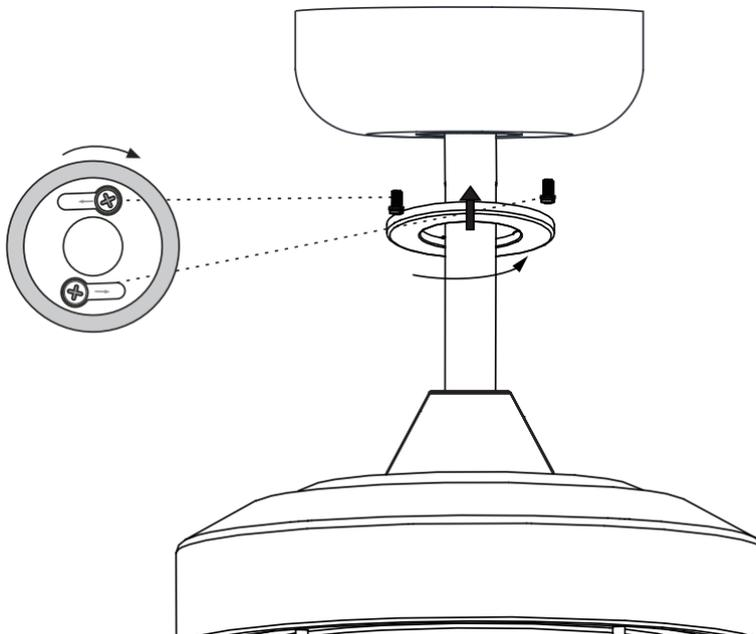

Fig. 14
**INSTALLATION OF THE CANOPY (Fig. 14)**